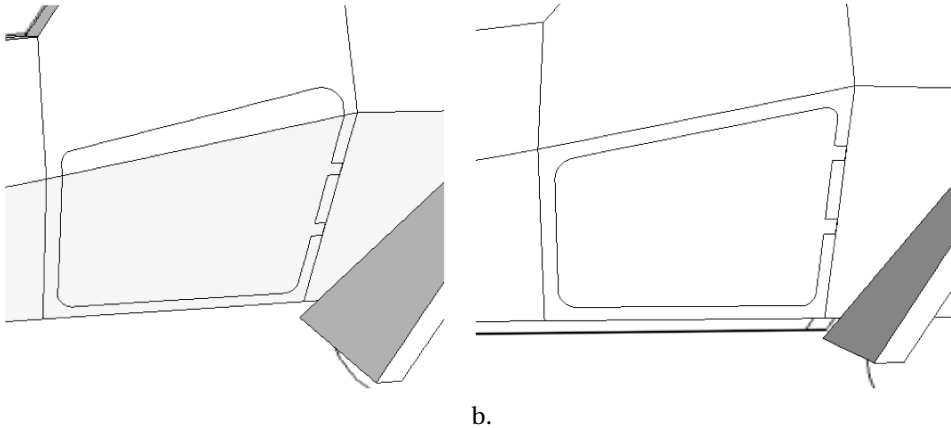

Figure 8–28. Trace projected on the surface of the body and adjusted to fit the surface
3. Select the grouped door, and hit Delete. What is left behind is just the trace. Notice the trace is slightly off from its original location. Since there is a slant in the surface on which the trace was created compared to the trace on the image, the door does not exactly line up with the model (Figure 8–28a).